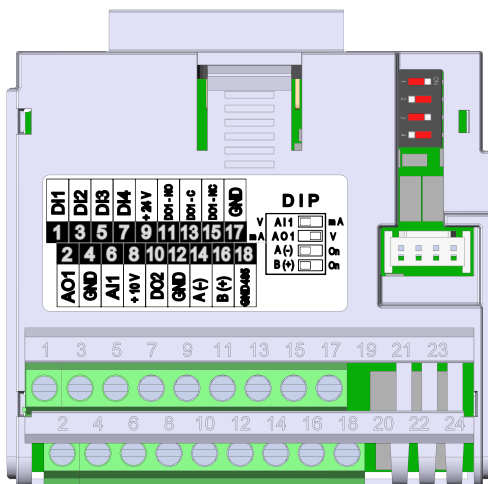

Figure 19.1: Plug-in module MW500-IOS
The MW500-IOS plug-in module has only Serial (1) interface through RS-485 port at terminals 14 (A-) and 16 (B+), see Figure 19.1 on page 19-1. See also, the GND485 on terminal 18 is isolated from GND on terminals 17 and 4.